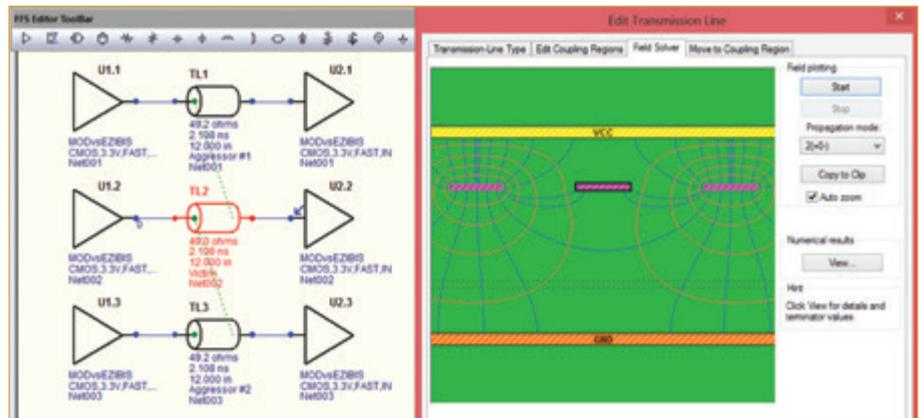

FIGURE 5. Crosstalk is easily illustrated with the aggressor-victim-aggressor example shown. (Shown with Mentor’s HyperLynx LineSim.)
Let’s start with coupled, coplanar 6.0-mil-wide (W) strip-lines, running parallel for 12" with trace-to-trace separation of 8.0 mils (S), through a 4.3 Dk dielectric with a 5.0 mil height (H) (FIGURE 5). A simulation with HyperLynx LineSim (FIGURE 6) shows the far-end crosstalk to see how much crosstalk occurs with the initial arrangement. With 590ps (0.59ns) driver-switching speeds on the two aggressor nets, and no signal injected on the victim net, about 600mV on the positive side will be injected into the far-end victim waveform, and 660mV on the negative side – both well beyond our design criteria of 200mV maximum crosstalk.
exist for controlling crosstalk, but to minimize crosstalk while controlling cost on a specific design requires a good simulation tool. In the following section, we’ll go through an iterative process for dealing with crosstalk on the design in Figures 5 and 6 to see if some reasonable design rules emerge.
TABLE 1. Simulation Results for Reducing Crosstalk Shown in Figures 5 and 6
TABLE 1 summarizes effects on the topology in Figure 5, and their relative impact on FEXT, ranked by relative reduction in worst-case crosstalk.